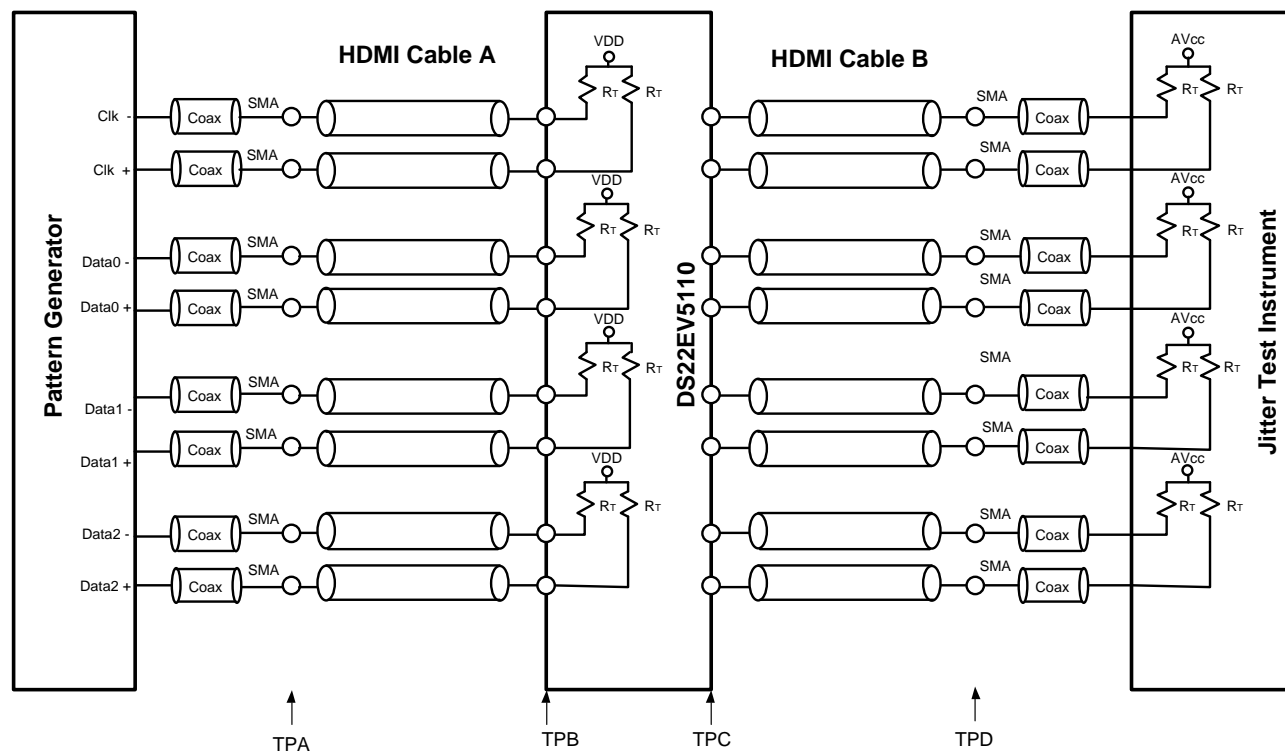

Figure 1. Test Setup Diagram
(3) Parameter is specified by statistical analysis and/or design.
(4) Deterministic jitter is measured at the differential outputs (TPC of Figure 1), minus the deterministic jitter before the test channel (TPA of Figure 1). Random jitter is removed through the use of averaging or similar means.
(5) Total Jitter is defined as peak-to-peak deterministic jitter from + 12 times random jitter (ps).
(6) Random jitter contributed by the equalizer is defined as $\text{sq rt}(J_{\text{OUT}}^2 - J_{\text{IN}}^2)$. J_{OUT} is the random jitter at equalizer outputs in ps-rms, see TPC of Figure 1; J_{IN} is the random jitter at the input of the equalizer in ps-rms, see TPA of Figure 1.